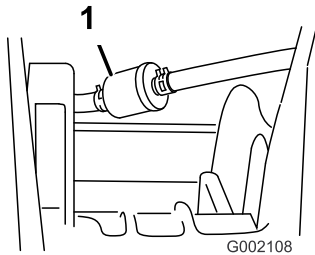

Figure 44
5. Remove the clamps securing the fuel filter to the fuel lines (Figure 44).